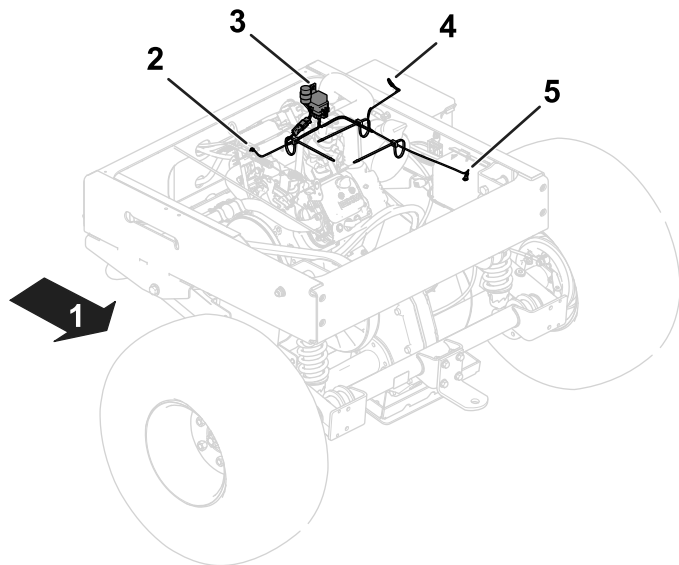

Figure 1
Use the following instructions and illustrations to route and connect the wire harness. Refer to Figure 1 for an overview of the wire-harness position.
5. Install the ring terminal to the engine magneto; refer to Figure 1 for the wire-harness position.
2. Connect the ring terminal of the wire harness to the negative battery terminal; refer to Figure 1 for the wire-harness position.